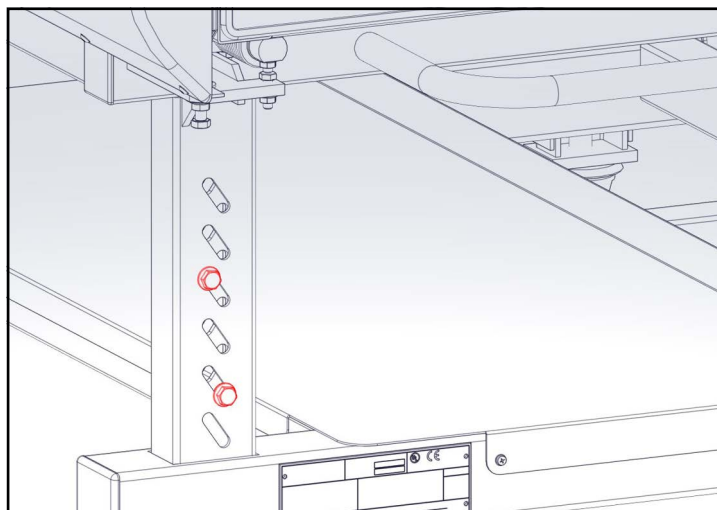

Figure 5
5. Locate the retaining bolts and slotted adjustment holes in the frame legs (see Figure 5).
9. When the desired height is achieved, push the retaining bolts through the slotted holes in the frame and leg. There should always be at least two openings that the bolts will pass through. If possible, place the bolts with at least one slot between them as shown in Figure 5.